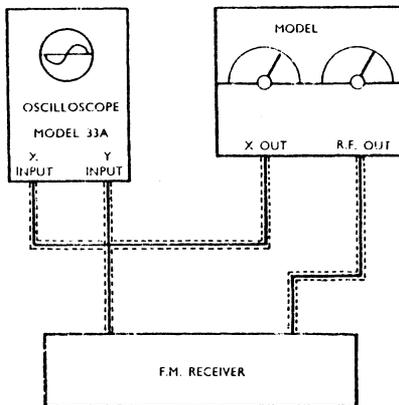

Fig. 6 Testing F.M. Receiver
F.M. Receiver Alignment (Fig. 6)